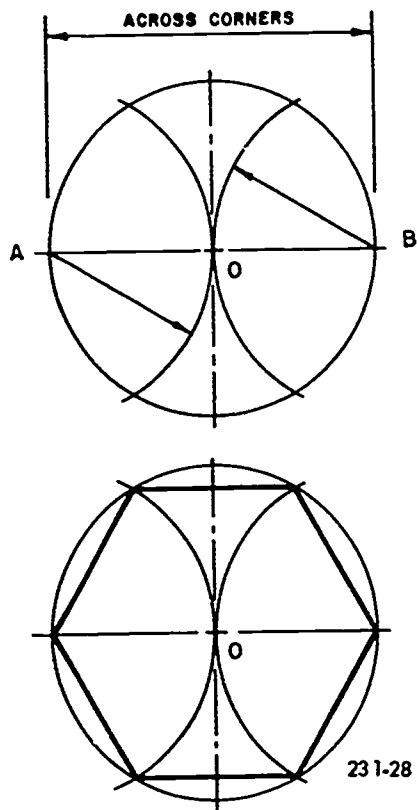
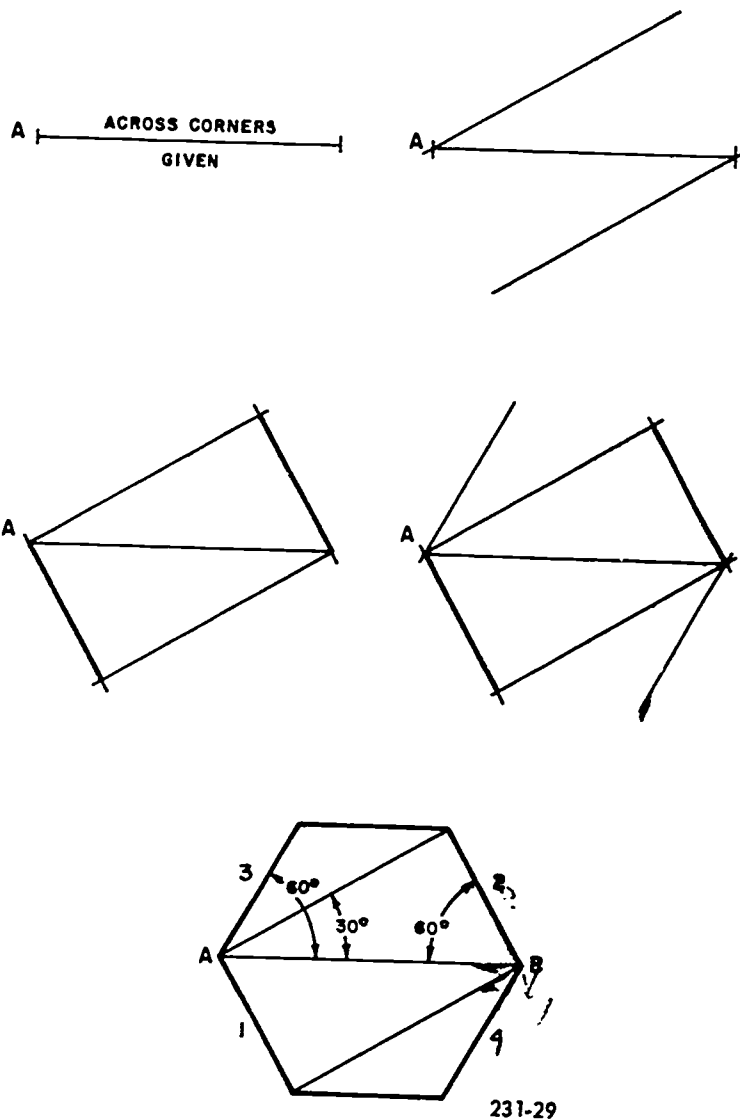

Figure 4-28. Constructing a regular hexagon with width across corners given.
Figure 4-29. Constructing a regular hexagon using T-square and triangle.
**Constructing a regular hexagon with the width, AB, across corners given.** The procedure which follows is illustrated in figure 4-28.
- (1) Draw a circle with given width AB as its diameter.
- (2) With the same radius (one-half of diameter AB) and using points A and B as centers, draw arcs intersecting the circle as shown.
- (3) Draw the chords, as shown, thus completing the hexagon.
**Construction of a regular hexagon, using T-square and triangle.** This method is often used when one side is horizontal with your drawing. Figure 4-29 illustrates the following procedure.
- (1) From the ends of the given line, AB, draw lines 1, 2, 3, and 4 at an angle of  $60^\circ$  with AB.
- (2) Draw two construction lines making a  $30^\circ$  angle with line AB.
(3) From points where one leg of each  $30^\circ$  angle intersects a leg of the  $60^\circ$  angle lying opposite it on line AB, construct parallels to line AB. These two parallels and the four legs of the  $60^\circ$  angles intersect to form a regular hexagon.